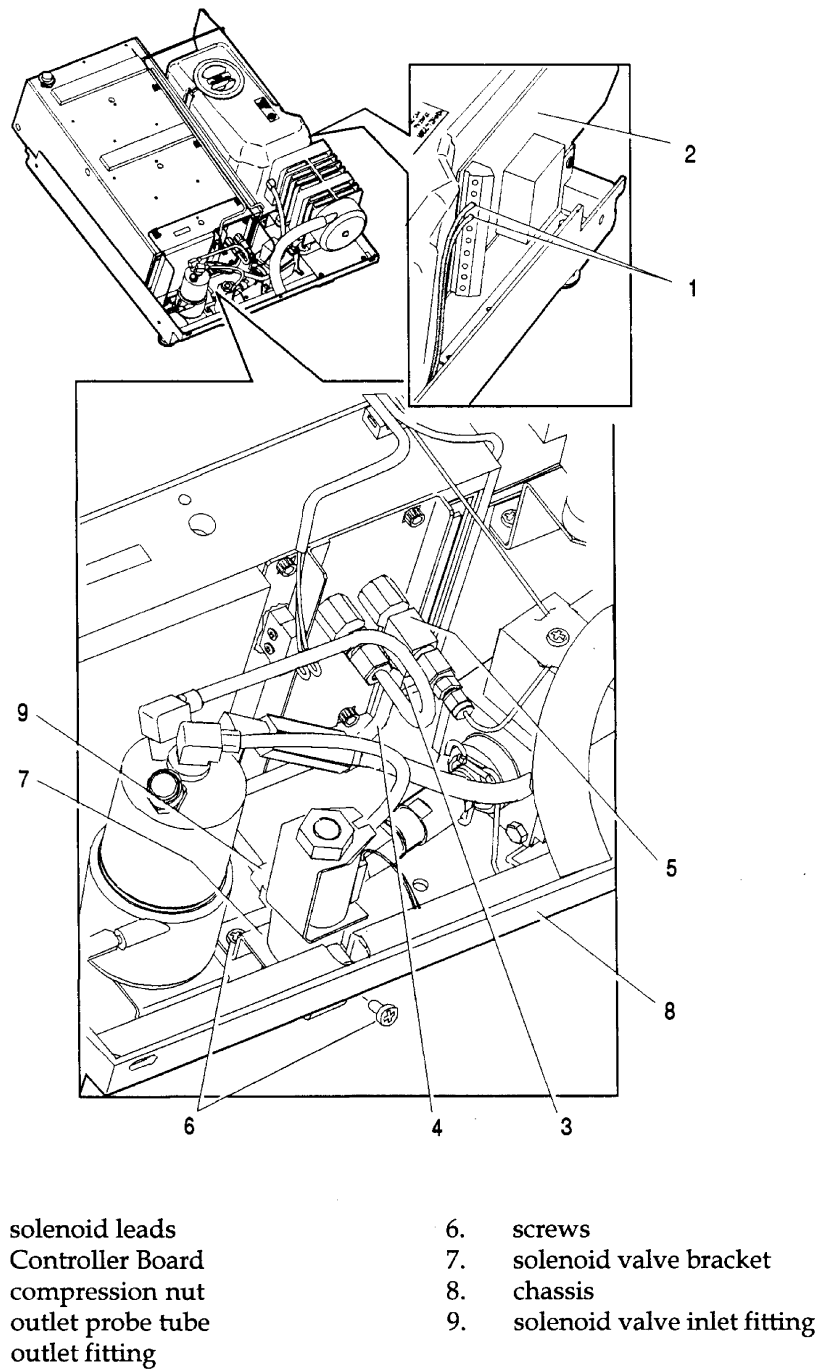

Figure 2
3. Disconnect the solenoid leads from the Controller Board terminal block positions labelled J1-7 LINE and J1-8 NEUTRAL (see items 1 & 2, Figure 2). If the coil has failed, replace the coil assembly.
4. Remove the nut (1) from the top of the solenoid valve assembly using an 11/16 inch wrench.
5. Pull the yoke (2) and coil (3) off the plunger tube (4) in an upward direction. Note the orientation of the yoke and coil for reassembly. To allow the coil to rest inside the unit, cut any cable ties required.
7. Remove the plunger (7), plunger spring (6) and bronze disc (5) from valve plunger tube body.
8. Inspect the o-ring (8) and the plunger seal (9) for nicks, compression set or swelling (the seal should not extend more than 0.010 inch from the plunger body).
To remove the solenoid valve follow these steps (See Figure 2):
To replace the solenoid valve assembly, follow these steps (see Figure 2)
1. Connect a new outlet probe tube (4) to the solenoid valve inlet fitting (1). Thread the compression nut, finger tight, on the inlet fitting. Tighten nut using a 7/16 inch wrench. **DO NOT OVERTIGHTEN.**
2. Connect the other end to the outlet probe fitting on the probe bracket assembly (5). Thread the compression nut, finger tight, on the inlet fitting. Tighten the nut using a 7/16 inch wrench. **DO NOT OVERTIGHTEN.**
3. Attach the solenoid valve bracket (7) to the chassis (8) using the two screws (6) retained from disassembly: one on the inside of the chassis, one on the outer rear surface of the chassis.
4. Route the wires from the solenoid valve coil together with the bundle wires extending to the Controller Board (2) and connect the leads to Controller Board terminal positions labelled J1-7 LINE and J1-8 NEUT (see Figure 2). These wires are interchangeable in the positions.